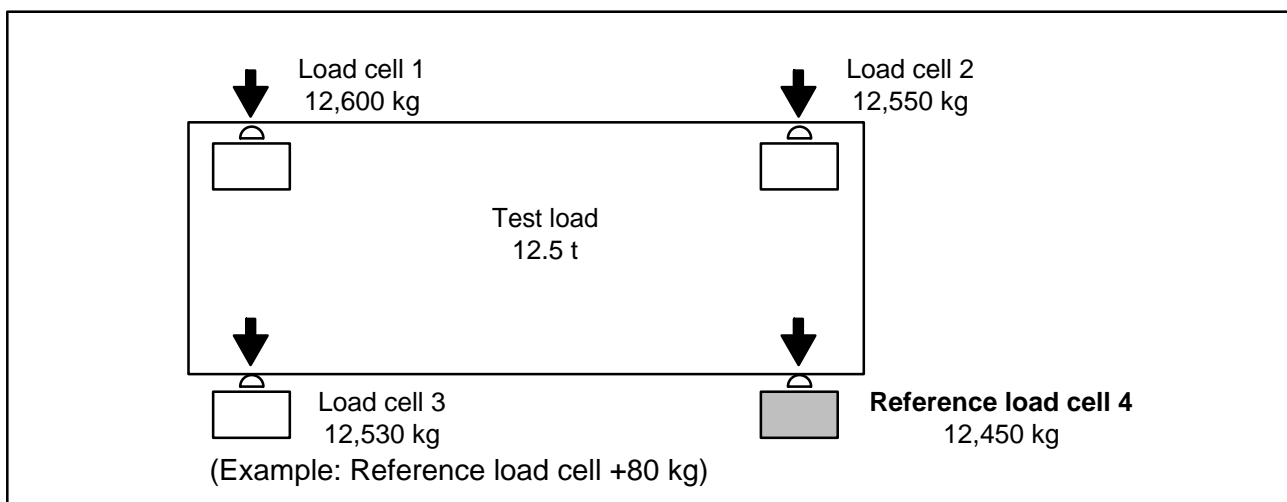

Fig. 7.1: Example: Platform weighing machine with four load cells with 12.5 t test load
- When the four corners of the platform are loaded, note the weighing machine signals in order to assess the respective differences (in kg) to the corner of the weighing machine (load cell) with the lowest indication. This load cell is the reference load cell (4) and does not need balancing (in the example in Fig. 7.1, load cell 4).